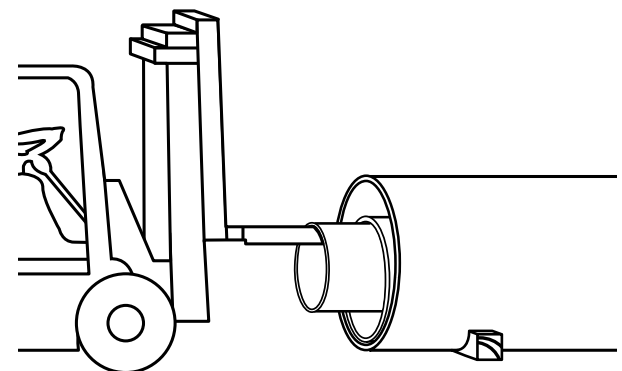

Figure 2-7 De-nesting with padded boom on forklift truck
- 4** Package removal and de-nesting of the inside pipe(s) is best accomplished at a de-nesting station. Inside pipes, starting with the smallest size may be removed by lifting slightly with an inserted padded boom to suspend the section and carefully move it out of the bundle without damaging the other pipes (**Figure 2-7**). When weight, length and/or equipment limitations preclude the use of this method, procedures for sliding the inside pipe(s) out of the bundle will be recommended for each project.